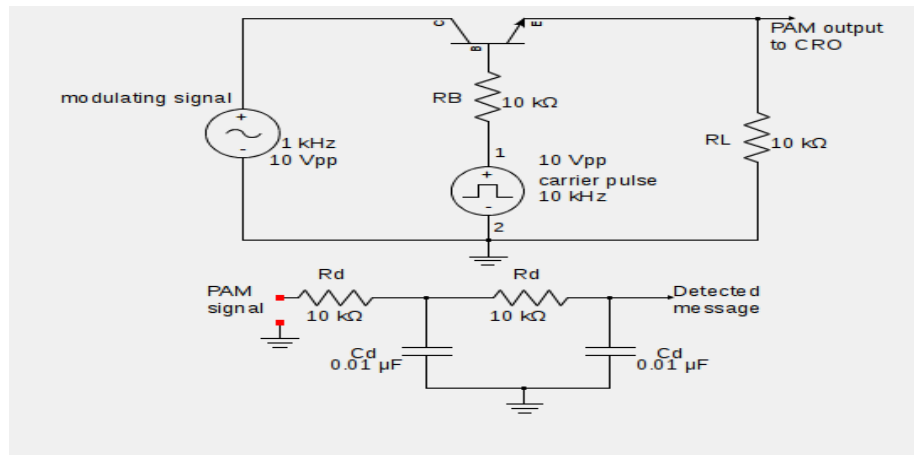

Figure 5.3: PAM generation and demodulation circuit
The PAM generation using transistor as a switch and demodulation circuit is shown in Figure. 5.3.
- Connect the PAM generating circuit as shown in the circuit diagram, Figure 5.3.
- Make the demodulating circuit as shown in the circuit diagram, Figure 5.3.